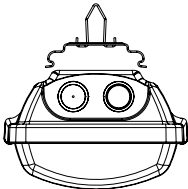

Fig. 3
- c) using a wire hanging – not included in the fittings (Fig. 3)